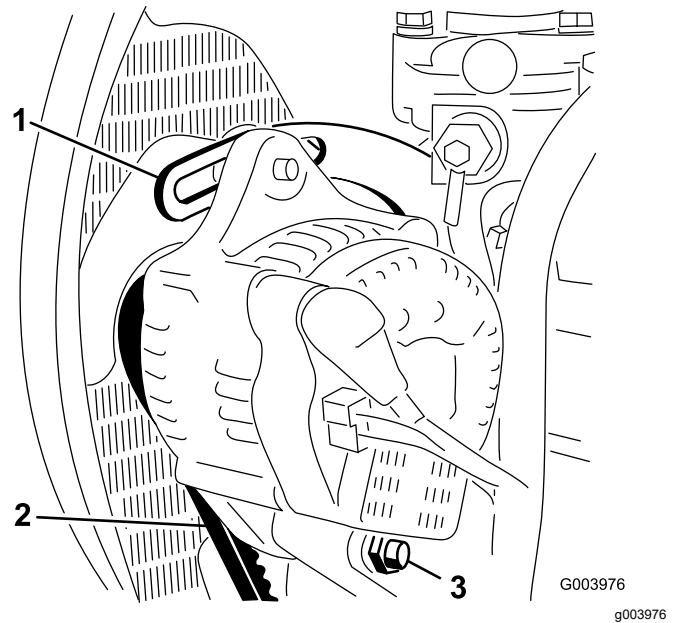

Figure 58
2. Check the tension of the alternator belt by depressing it (Figure 58) midway between the alternator and the crankshaft pulleys with 10 kg (22 lb) of force.
4. Loosen the bolt securing the brace to the engine (Figure 58), the bolt securing the alternator to the brace and the pivot bolt.